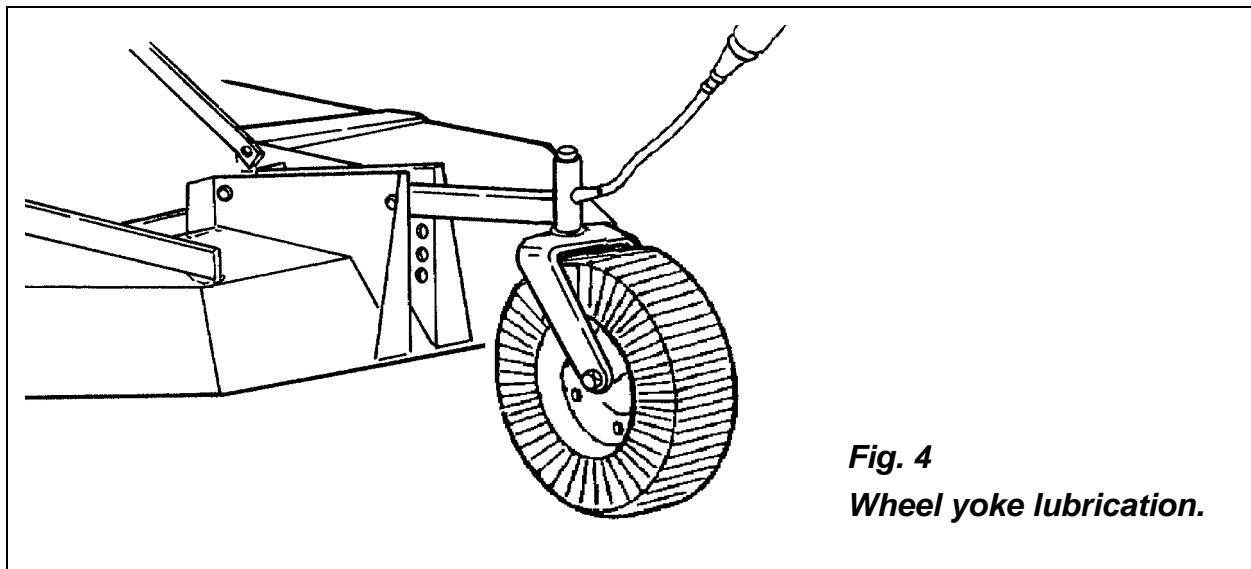

Fig. 4
1. **Lubricate driveline, lubricate caster wheel and tail wheel arm (see fig. 4 & 5):** Apply two or three shots of grease to the driveline cross and bearings and the telescoping shafts; apply the same amount to the wheel arm grease fittings and the wheel grease fittings. See the driveline manufacturer operator's manual for further information on the driveline.